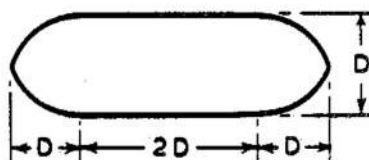

Fig.1 Bobbin for hose bore test
(1) Straight hose assemblies. The hose bore can be examined by looking through the hose at a convenient light source.
(2) Elbow fitting at one end. Insert a flexible inspection light into the elbow fitting and examine the hose bore by looking through from the straight fitting end.
(3) Elbow fitting at each end. Insert a flexible inspection light into one end fitting and examine the hose bore from the opposite end with the aid of a dental type mirror.
8. In addition to the visual examination, the hose bore should be checked for restrictions by the passage of a steel ball. The ball should be of the size which will just pass through the end fitting and can be selected by reference to Table 4. Should a suitable ball not be available, hose assemblies which contain at least one straight fitting can be checked using a locally manufactured steel bobbin as illustrated in fig. 1.